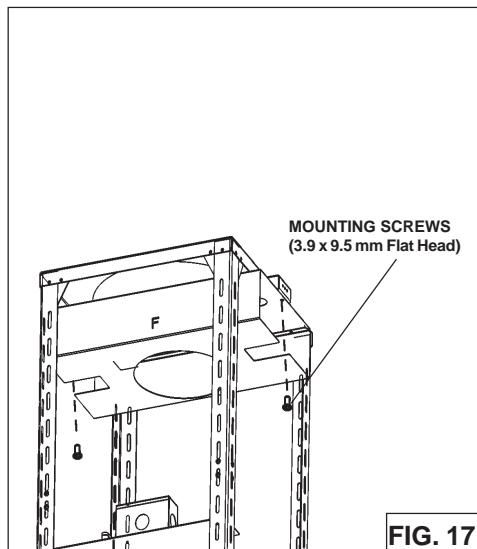

FIG. 17
4. Install the plenum to the upper decorative flue using (2) 3.9 x 9.5 mm screws provided as shown (Fig.17).